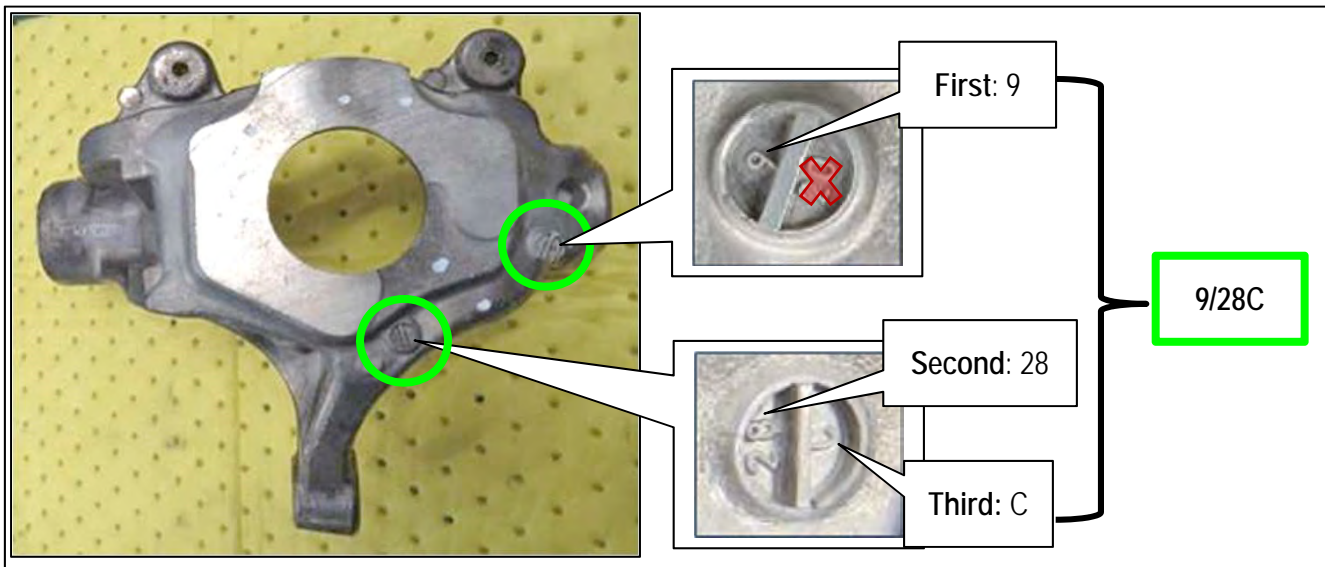

Figure 28
18. Locate the casting stamp dates on each suspension knuckle, where indicated in Figure 28.
NOTE: Orient the suspension knuckle as shown in Figure 28 (RH side is shown, LH side will be reversed).
- a. Write down the upper digit of the casting stamp nearest the lower ball joint mounting point. This will be the first digit of the casting stamp date. This is the number "9" of the example below in Figure 28.
- c. Write down the upper digit followed by the lower digit of the casting stamp nearest to the tie rod end mounting point. This is the number "28" followed by the letter "C" of the example below in Figure 28.